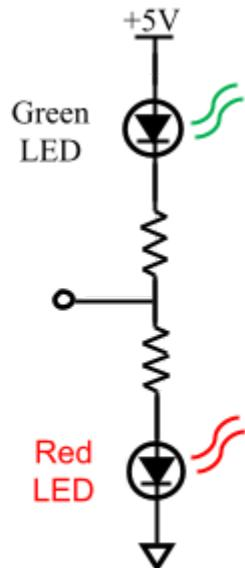

Figure 5.4
D. Solve the following questions using Figure 5.4. Assume 0.7V voltage drop across LEDs when they are positively biased. Show your calculations.